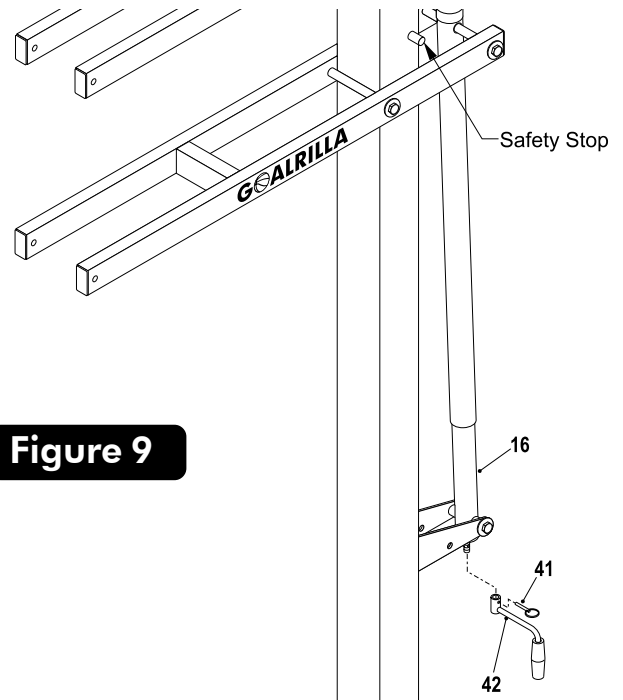

Figure 9
12. Slide Actuator Crank (#42) onto shaft on the bottom of Actuator (#16). Line up hole in shaft with hole in Actuator Crank and insert Pin (#41) to secure. See Figure 9.